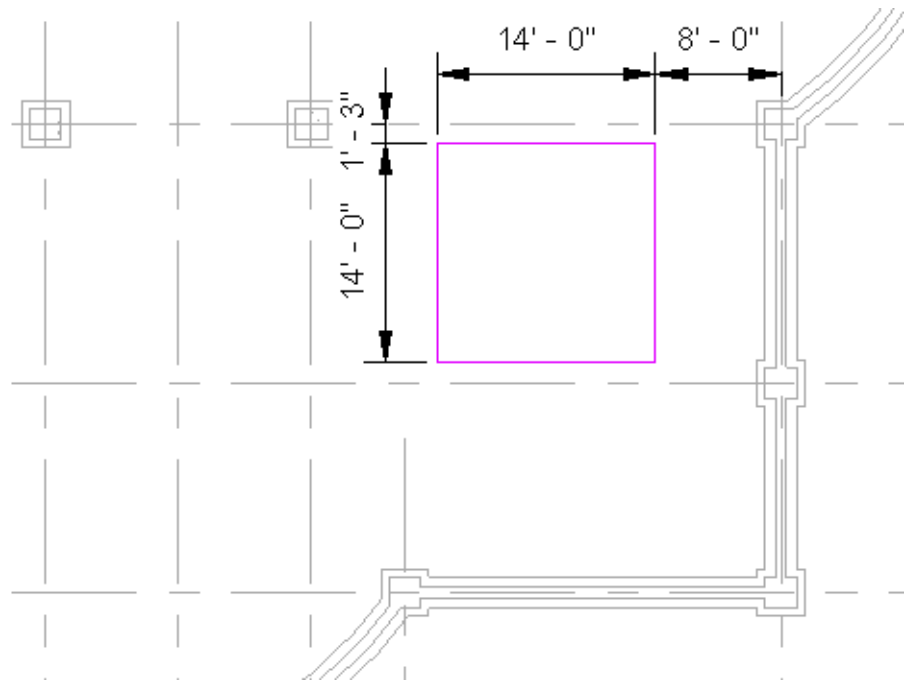

Figure 7–58
4. Use the draw and modify tools to create a boundary line as shown in Figure 7–58.